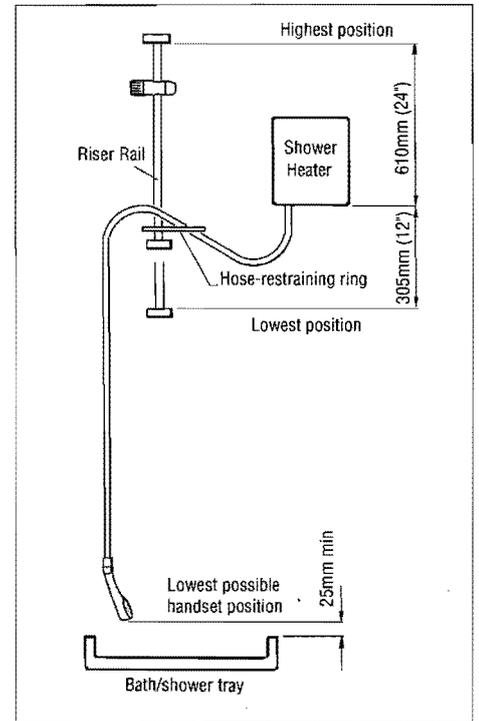

Figure 2.6 Siting of riser rail and heater
2.6 Position the riser rail close to the heater, not necessarily on the same wall (but bear in mind paragraph 2.4) so that, in its highest parked position the handset is no more than 610mm (24") above the bottom of the heater, and in its lowest position it is no lower than 305mm (12") below the heater (see Fig. 2.6).
- (i) install a hose-restraining ring (see Fig. 2.6).